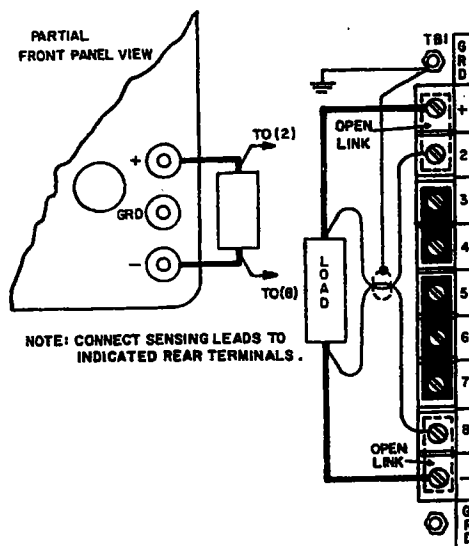

FIG. 3-3 LOAD CONNECTION
- 3-5 Specified d-c performance directly at the load** requires the use of remote error sensing. A twisted, shielded pair of wires from the sensing terminals directly to the load will compensate for load wire voltage drops up to 0.5 volt per wire (Refer to FIG. 3-3). Observe polarities: The negative sensing wire [from terminal (8)] must go to the negative load wire, and the positive sensing wire [from terminal (2)] goes to the positive load wire.